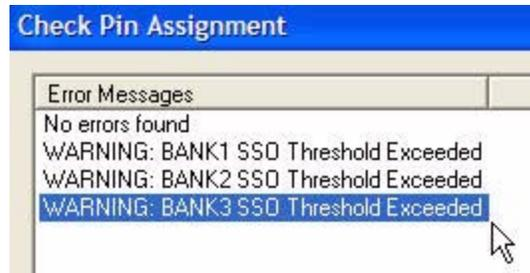

Figure 9: Pin assignment warnings
11. Run a DRC on the pin placement (Tools -> DRC), and fix any placement errors/warnings you find. Figure 9 illustrates several SSO Warnings in the design. We recommend that you review the SSO Checking section.